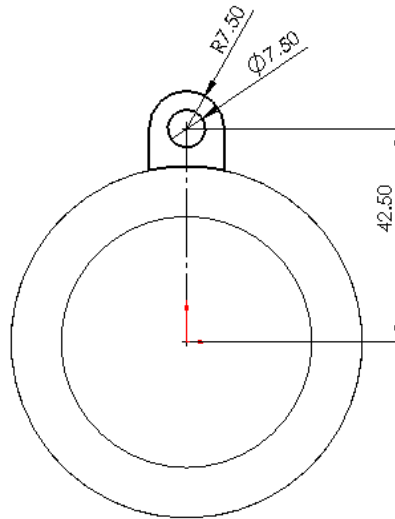

Figure 8-69 Sketch of the third feature
- Create the sketch on the **Top** plane and extrude it to the given distance, refer to Figure 8-69.
3. Create the sketch of the third feature and add the required relations and dimensions to the sketch as shown in Figure 8-69.